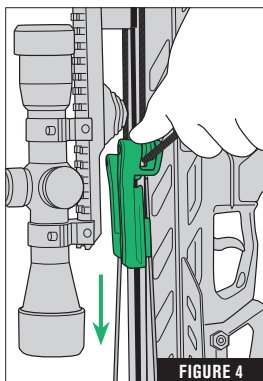

FIGURE 4
2. With the string latch engaged, release the tension on the cocking sled by applying slight pressure to the Crank Arm and depressing the release pawl to the unlock position, while holding it down, you may then begin to reverse the crank arm. Avoid reversing more than 7 rotations. At this point tension has been removed from the sled, and you may remove the sled from the string by placing your thumbs behind the rollers of the sled, and pushing it forward until it clears the string, ball bearing retention spring, and scope (Fig. 4).